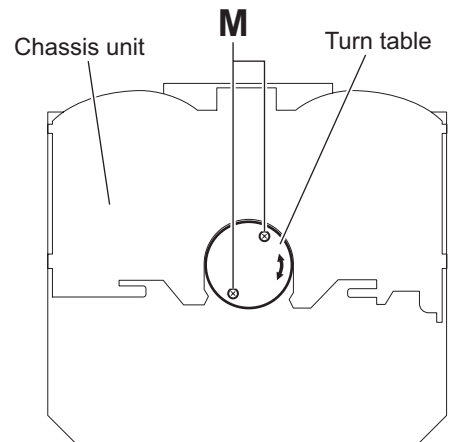

Fig.27
### 3.2.20 Removing the spindle motor assembly (See Figs.27 and 28)
- From the top side of the chassis unit, turn the turn table from side to side and remove the two screws **M** attaching the spindle motor assembly through the hole of the turn table. (See Fig.27.)